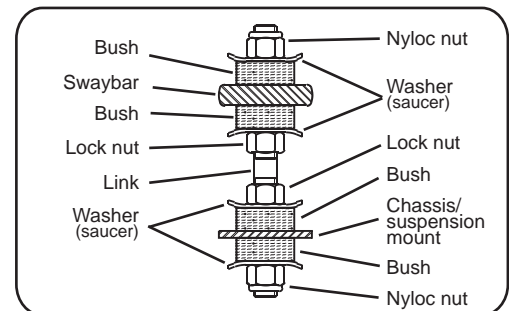

Fig.1. Whiteline double pin type link.
- For swaybars supplied with new links and hardware, refer to Figures 1 to 4 for bushing type endlink and their correct assembly. Refer page 2 for Ball-style.
Caution: *Do not over tighten swaybar pin type link bushes, refer Fig 1. Nuts should be tightened until washer meets the bush & stops rotating. Then tighten a further 2/3 of a turn. Over tightening compresses and pre-loads the polyurethane bush which reduces articulation and may cause premature failure.*